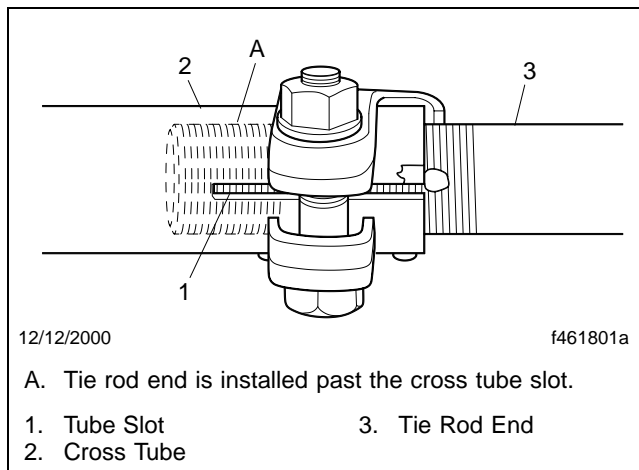

Fig. 5, Bottom View of Tie Rod End and Cross Tube
1. Use the thread count as a guide and install the tie rod ends in the threaded cross tube ends to the approximate depth marked during the tie rod assembly removal. Both tie rod ends must be installed in the cross tube deeper than the end of the cross tube slot. See **Fig. 5**.